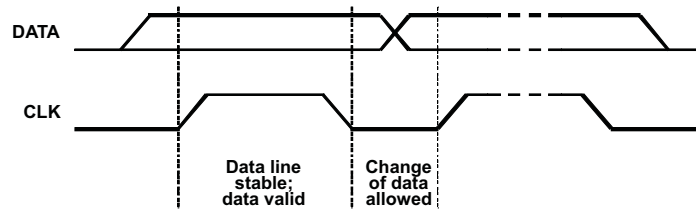
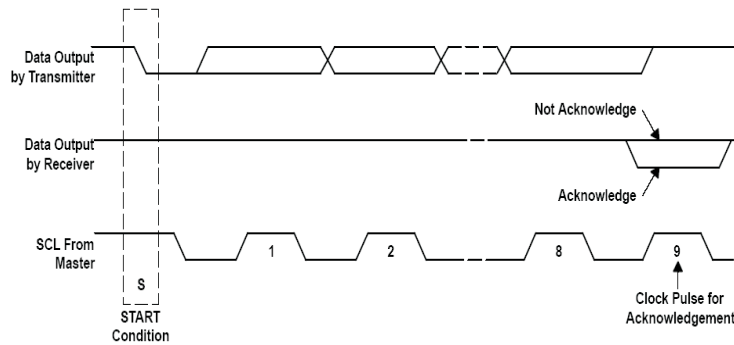

Figure 32. Bit Transfer on the Serial Interface
Figure 33. Acknowledge on the I2C Bus
The master then generates the SCL pulses, and transmits the 7-bit address and the read/write direction bit R/(W) on the SDA line. During all transmissions, the master ensures that the data is valid. A valid data condition requires the SDA line to be stable during the entire high period of the clock pulse (see Figure 32). All devices recognize the address sent by the master and compare it to their internal fixed addresses. Only the slave device with a matching address generates an Acknowledgment, ACK, (see Figure 33) by pulling the SDA line low during the entire high period of the SCL cycle. Upon detecting this Acknowledgment, the master knows that communication link with a slave has been established.